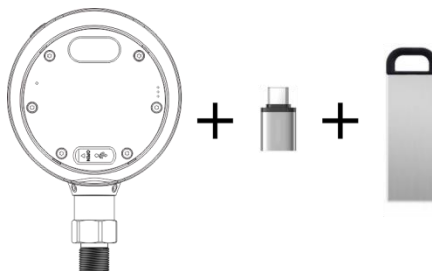

Figure 21 Connect to USB disk through the adapter
(1) Connect to TYPE-A USB2.0 USB disk through the adapter, shown in Figure 21.